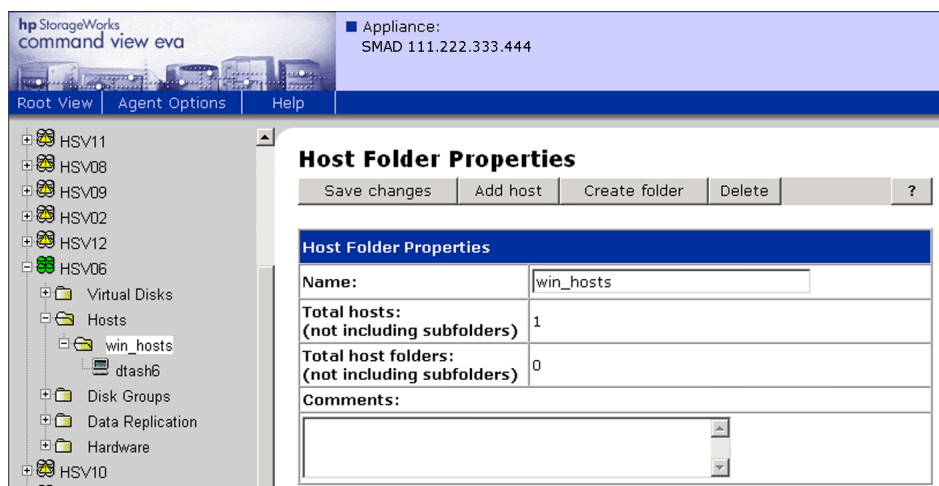

Figure 63: Host Folder Properties page
- 1) In the Navigation pane, select the Hosts folder where you want to create a host. The Host Folder Properties page is displayed (Figure 63).